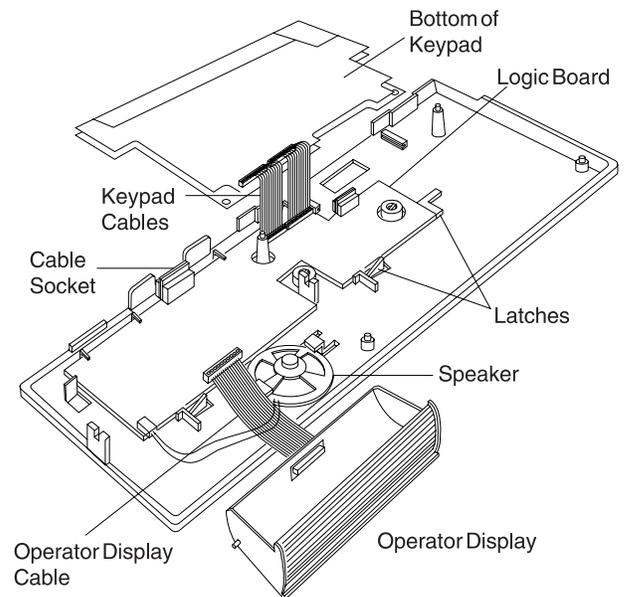

Figure 4-12. Removing the Keypad
- 4 Lift the keypad assembly and turn it over as shown in Figure 4-12 on page 4-19.